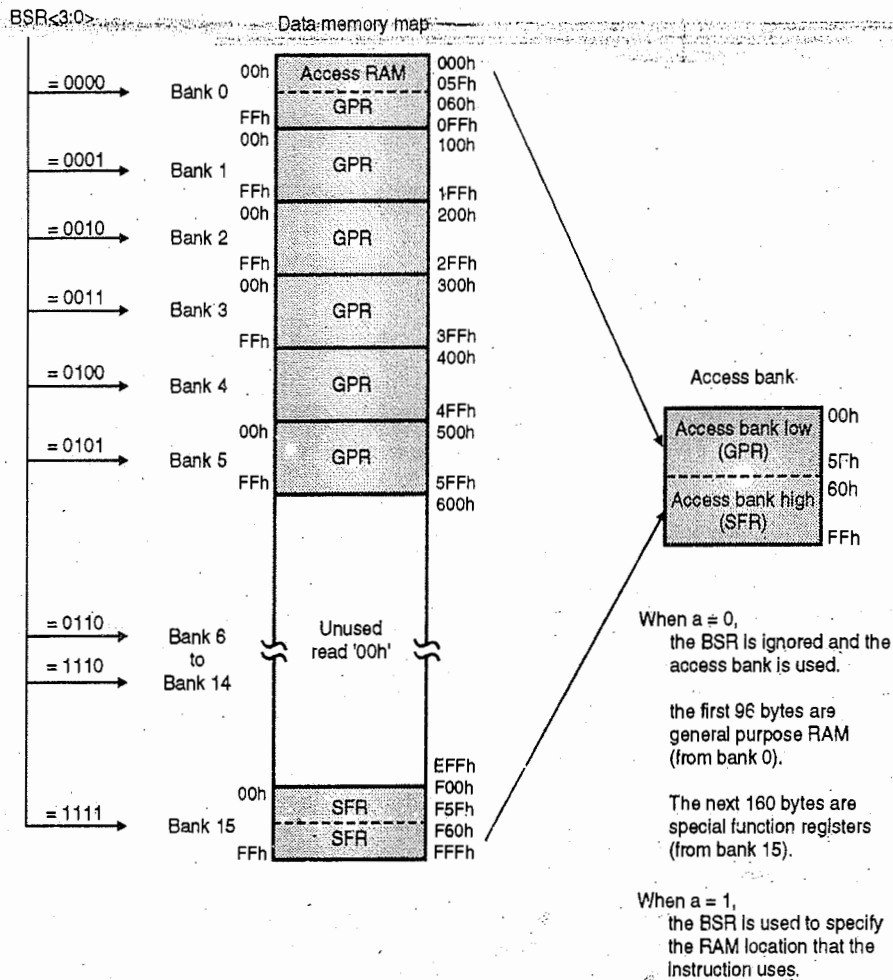

Fig. 4.9.5 : Data memory map for PIC18FXX8 device
- Fig. 4.9.5 shows the data memory organization for the PIC18FXX8 devices.
- **Two types of registers** are available in the data memory as shown in Fig. 4.9.5. They are :
- As shown in Fig. 4.9.5 the **Access Bank** is made up of Bank 0 GPR lower part and Bank 15 SFR higher part .It ensures that the commonly used registers can be accessed in a single cycle.
- As shown in Fig. 4.9.5 the two parts are called as Access bank low (GPRs) and Access bank high (SFRs).
**4.9.2.3(A) General Purpose Register File**
- The **general purpose registers** are a group of RAM locations in the file register. Fig. 4.9.5 shows the general purpose registers. They are located from Bank 0 to Bank 14 in the data memory.
**4.9.2.3(B) Special Function Registers**